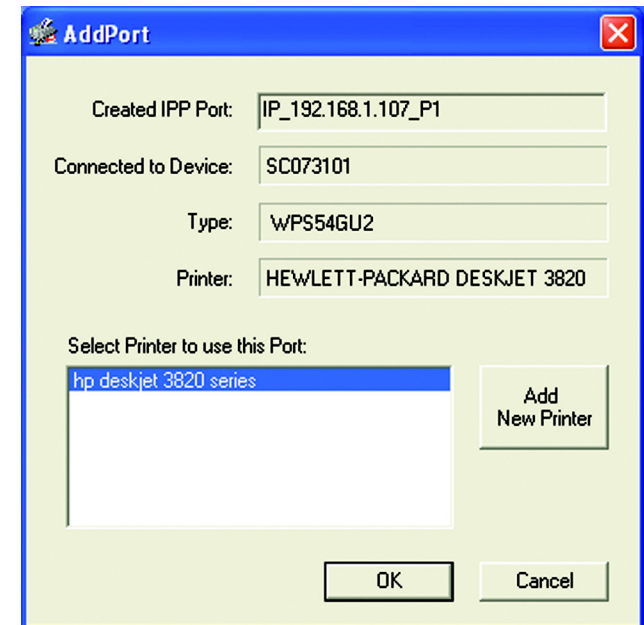

Figure 8-3: AddPort
5. Click **OK** to create the IPP port on your system. You will see a message confirming that the port has been created, and then you will see Figure 8-3.